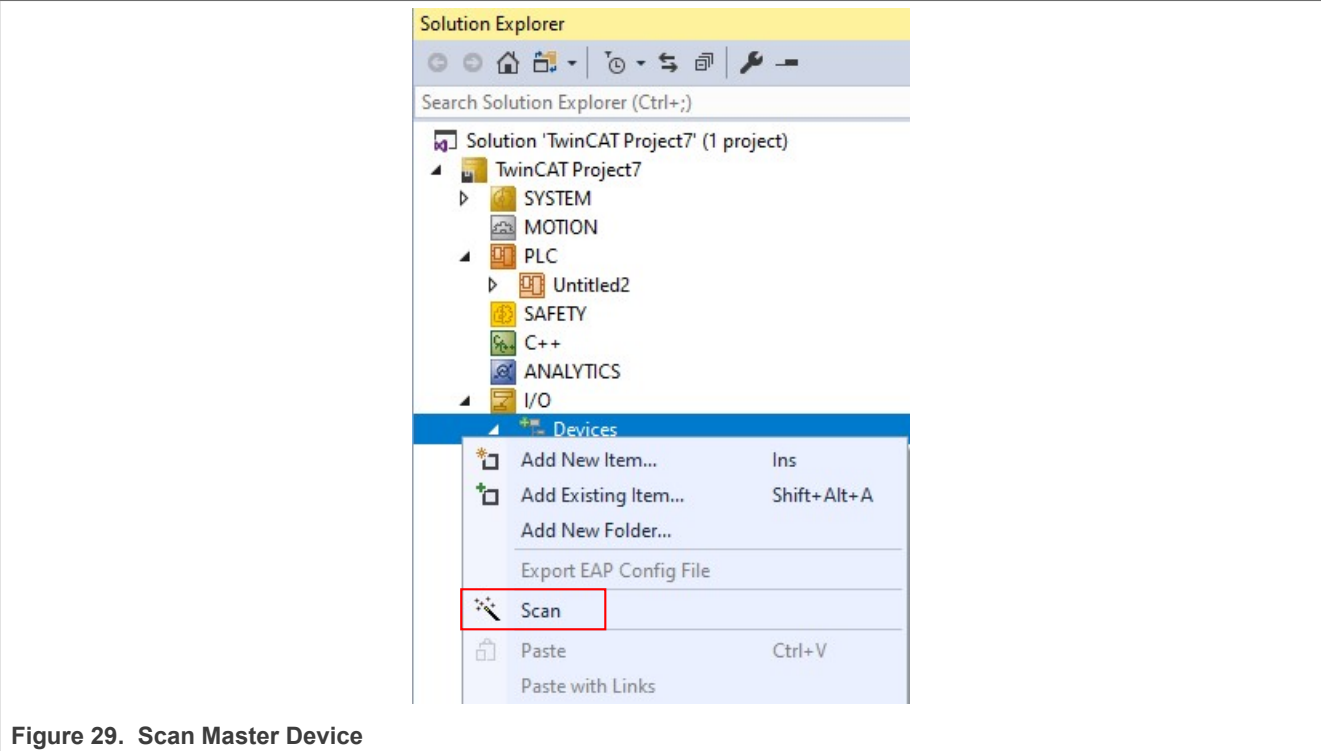

Figure 29. Scan Master Device
7. Right click **Devices** and select **Scan**, as shown in Figure 29.